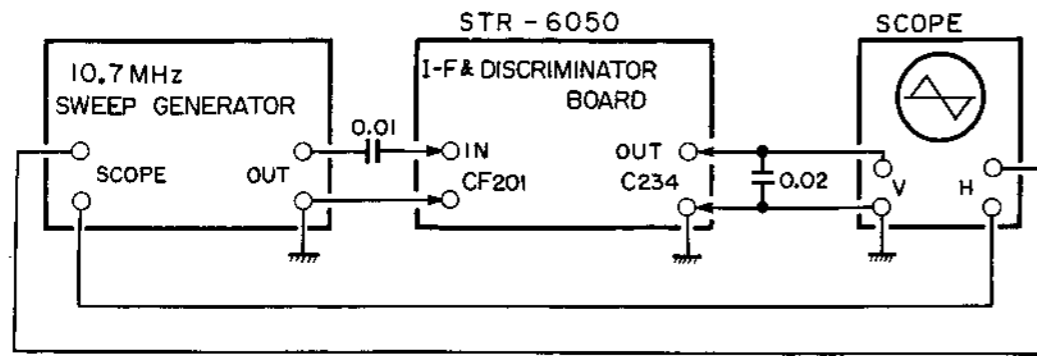

Fig. 3-5 FM Discriminator Adjustment Test Set-up
- (1) With the equipment connected as shown in Fig. 3-5, set the 10.7 MHz Sweep Generator controls as follows: